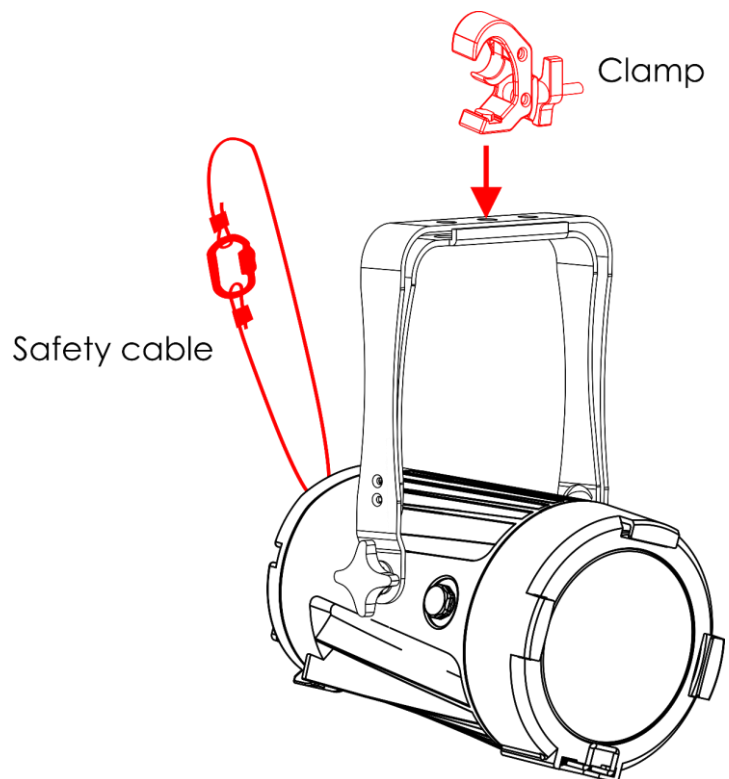

Fig. 09
- 01) Use a clamp to attach the device to the supporting structure, as shown in Fig. 09. Make sure that the device cannot move freely. The use of a quick lock bracket is optional.
- 02) Secure the device with a secondary suspension, for example a safety cable. Make sure that the secondary suspension can hold 10 times the weight of the device. If possible, the secondary suspension should be attached to a supporting structure independent of the primary suspension. Put the safety cable through the **safety eye (11)**, as shown in Fig. 09. You can use the safety cable supplied with the device.